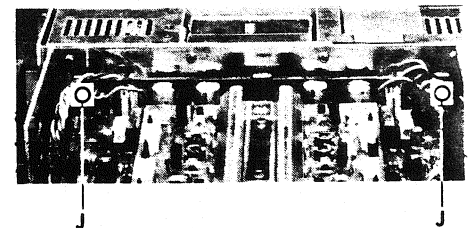

Fig. 2.7
- Unfasten the two screws [J] on the mounting bracket (Fig. 2.7).